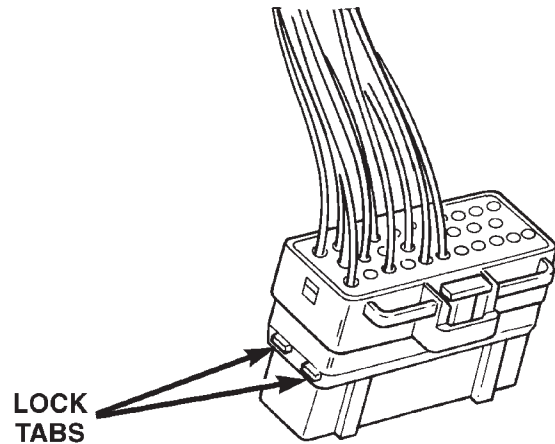

Fig. 12 Thomas and Betts Connector Lock Release Tabs
- (1) Disconnect battery.
- (2) Disconnect the connector from its mating half/component.
- (3) Push in the two lock tabs on the side of the connector (Fig. 12).